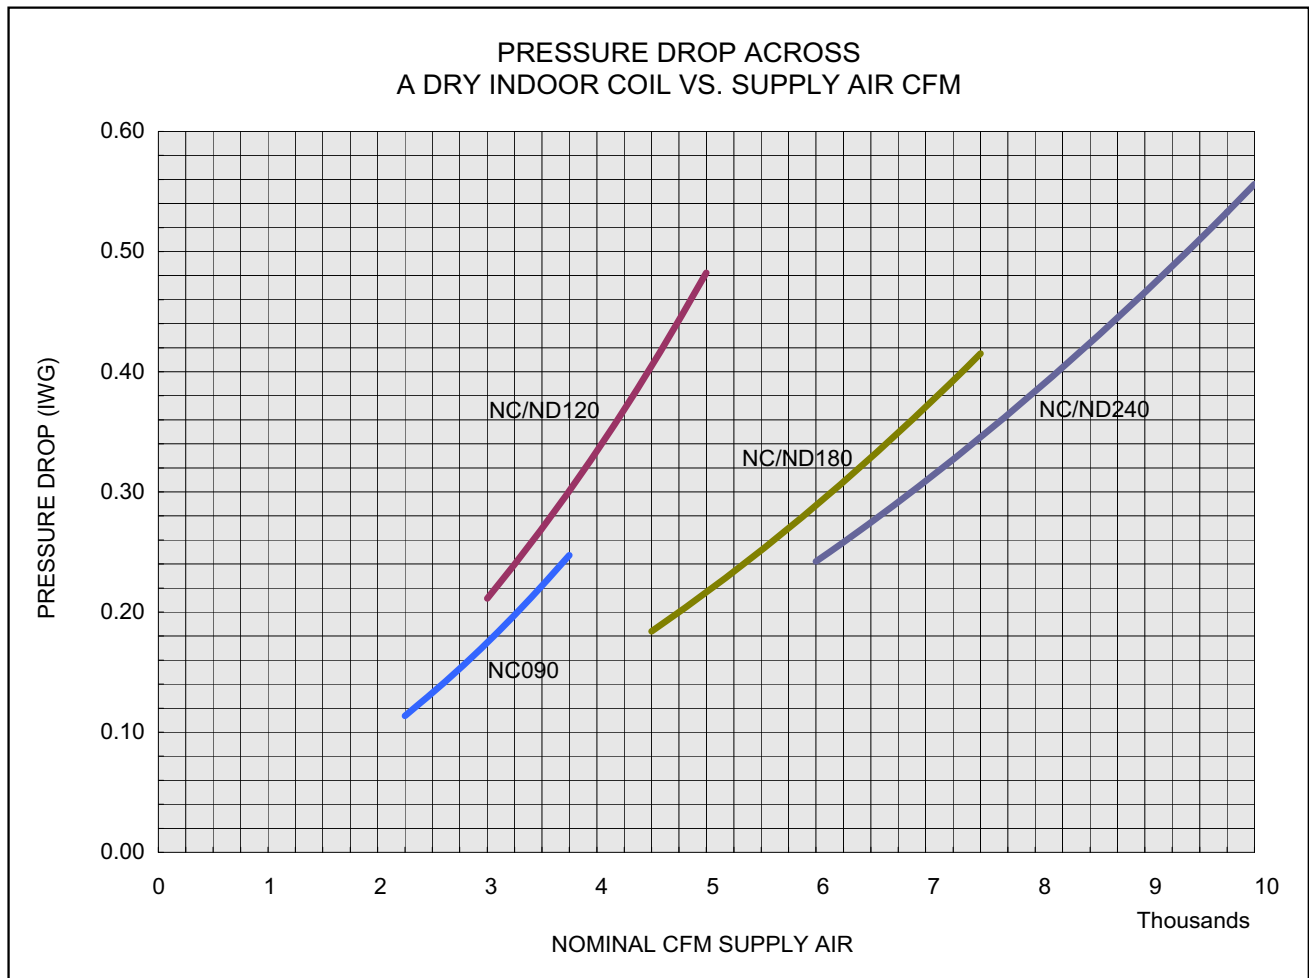

Figure 24: Pressure Drop Across A Dry Indoor Coil vs. Supply Air CFM
4. Knowing the pressure drop across a dry coil, the actual CFM through the unit can be determined from the curves shown in Figure 24.